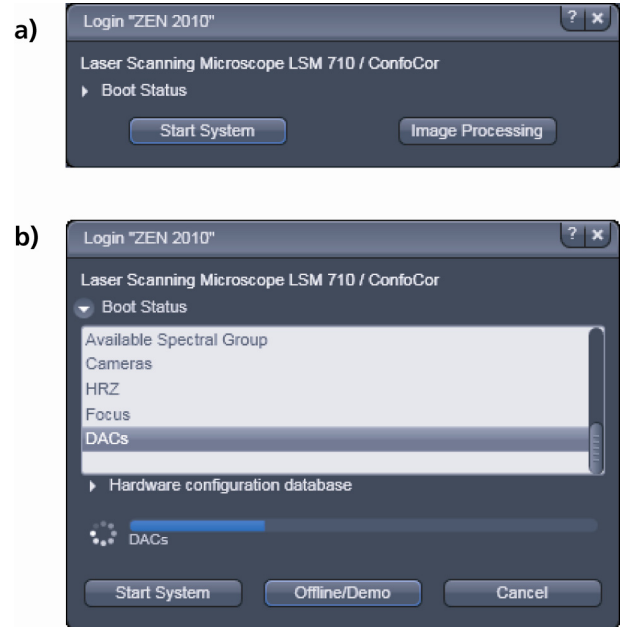

Fig. 4 Starting the ZEN software
The ZEN software is started by double clicking the ZEN icon. The login panel (Fig. 4/a) appears on top of the ZEN Main Application window. The software can be operated in three different modes.
- The **Offline/Demo** mode reads the active hardware database and simulates the respective hardware. This button is only available after opening the boot status display by clicking the little arrow left of the text "Boot Status" (Fig. 4/b).